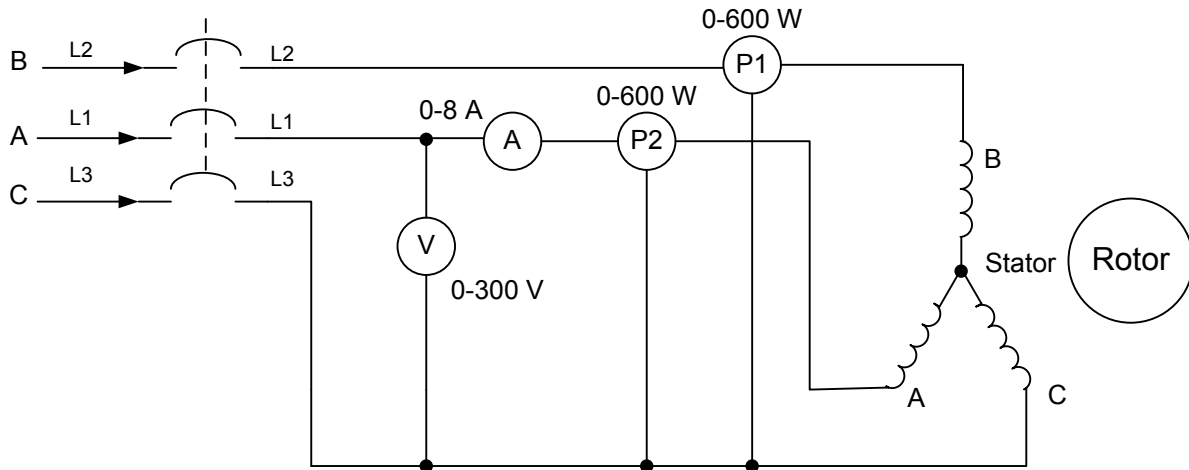
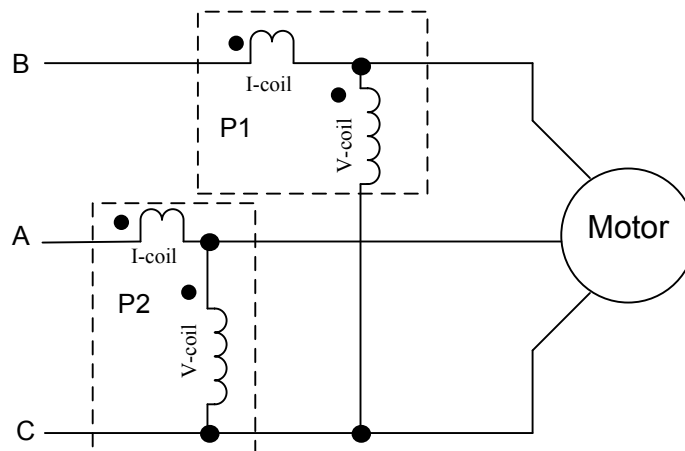

Figure 3. Induction Motor Electrical Connections- No-Load Testing
Figure 4. Power meter connection details. Dotted end of coils indicates positive terminals.
Step 2: Connect the induction machine as shown in Figure 3. Note the polarity of the current and voltage coils of the wattmeters. The dotted ends indicate positive instantaneous polarity. Set the range to 600 watts when using the analog meters. The digital meters are auto-ranging and need no additional adjustment. Figure 4 gives the details of the power meter connections.
Step 4: Move the voltmeter connections to the terminals of the bench supply. Turn on the bench power supply and adjust the output voltage to rated motor voltage. Replace the voltmeter leads to the position in Figure 3.
Step 2: Move the voltmeter leads from the motor to the bench power supply. Turn on the supply and adjust the supply voltage to 104 V. Turn off the supply and replace the leads in the position shown in Figure 3.